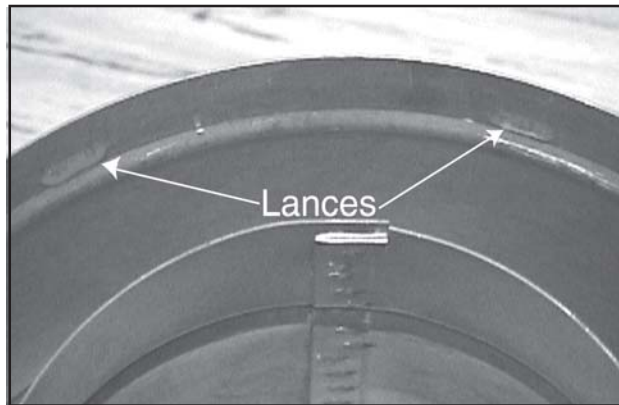

FIGURE 28.
- Slide the male end of the inner flue of the pipe section over the inner collar on the heater. At the same time, slide the outer flue over the outer collar on the heater. Push the flue section into the appliance collar until all the lances (see Figure 28) have snapped in place. Tug slightly on the flue to confirm that it has completely locked into place.